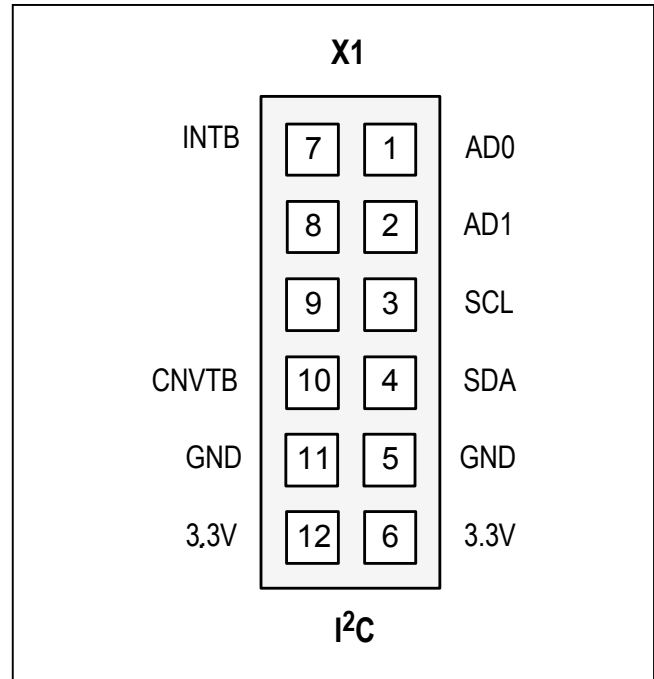

Figure 1. X1: Pmod I2C Connector Pin Configuration
- Connector X1 provides connection of the module to the Pmod host. See Table 1 and Figure 1 for detailed description.